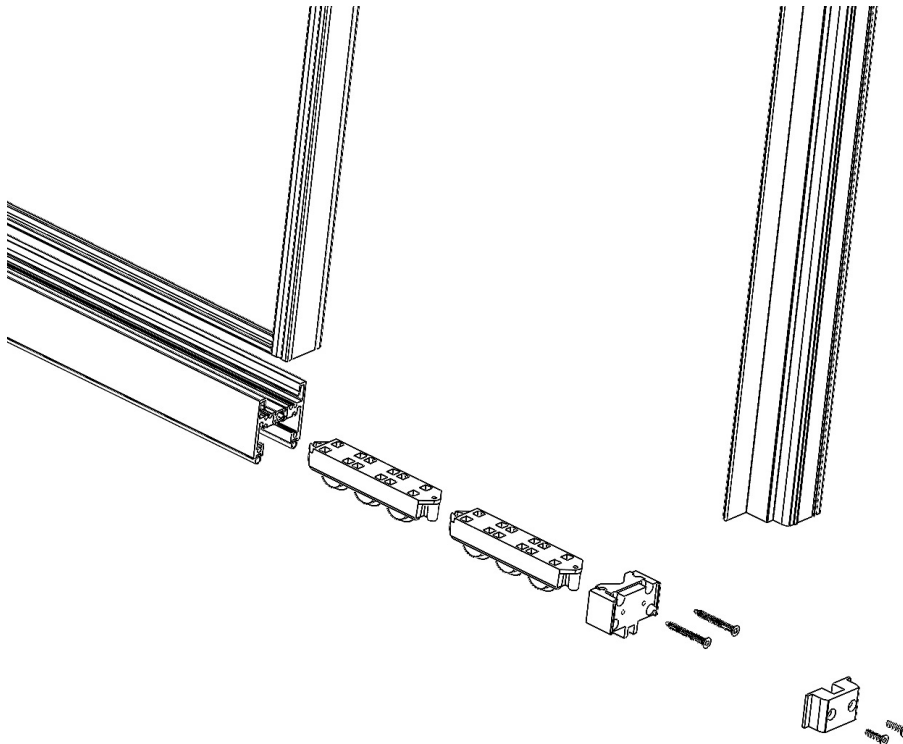

Figure 15
5. Determine the number of roller assemblies needed per panel and connect by sliding one (1) roller assembly onto the other. Continue this process for all required rollers. Once complete, slide the end sweep onto the roller assembly and set roller assemblies in front of panel.
6. Taking care not to scratch or shift the lead panel over. With a pry bar, lift the panel high enough to slide the roller assembly system into place. Ensure that all rollers rest onto the track cap and roll freely. (See Figure 15).